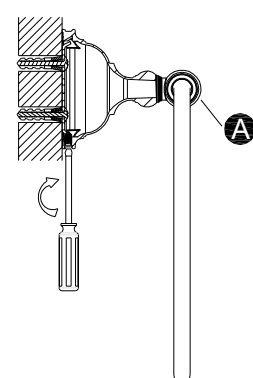

Fig. 5
5. Place towel ring **A** over mounting bracket **CC** and tighten set screw on post of towel ring **A** with small flathead screwdriver (Fig. 5).